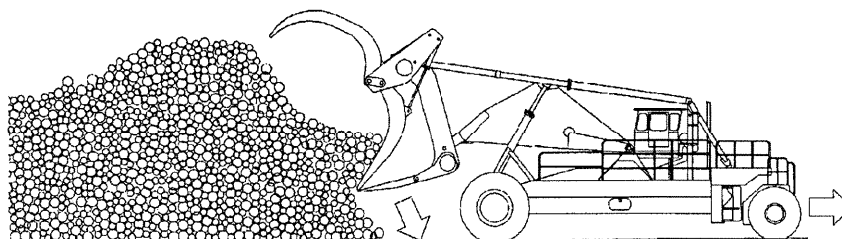

Fig 4-14
- Continue backing and lowering until all the logs are out of the carriage. See Fig. 4-14.